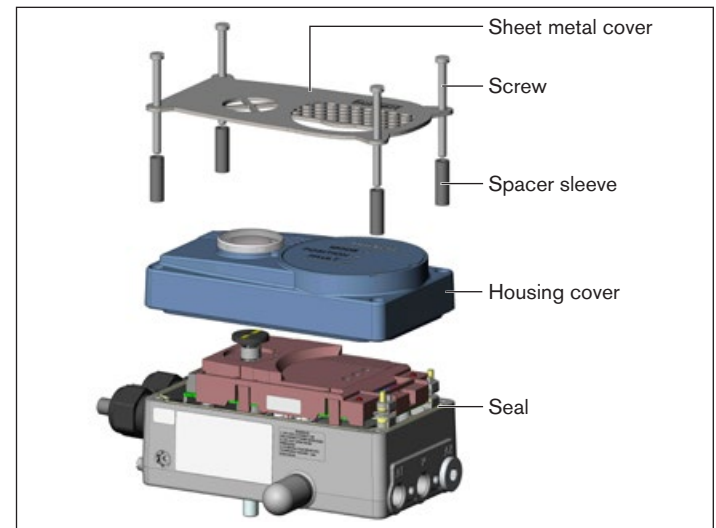

Fig. 4: Installing/removing sheet metal cover and housing cover using Type 8791 as an example
- Attach sheet metal cover with screws and spacer sleeves (see "Fig. 4").